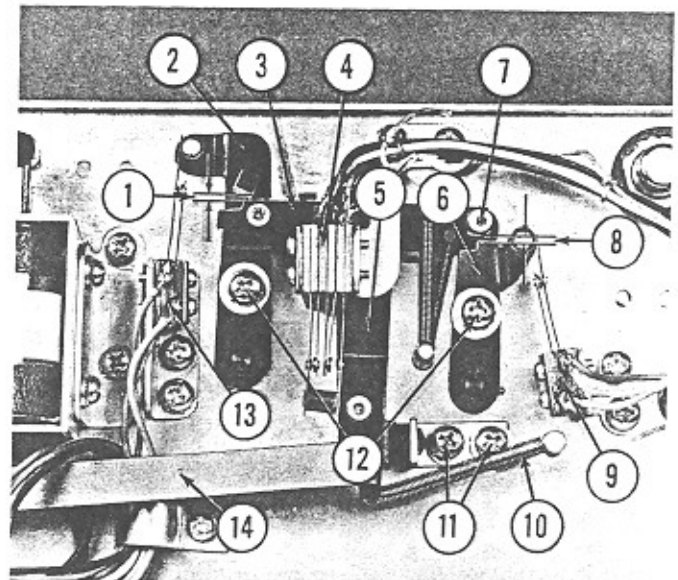
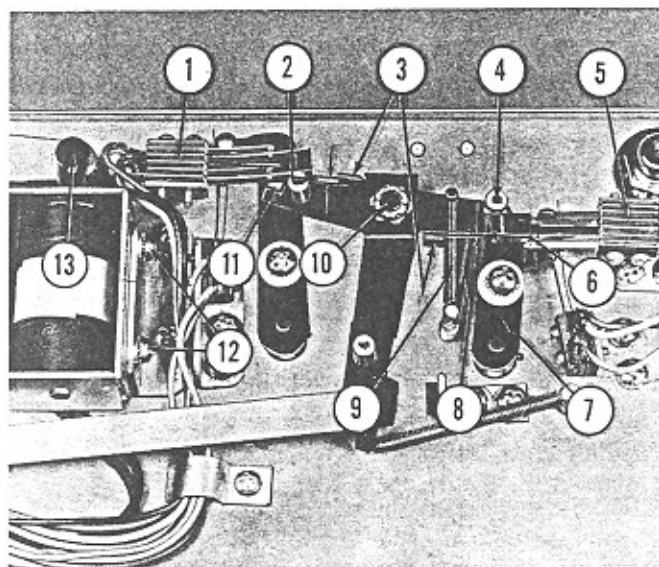

Fig. 24. SELECTOR SWITCH AND SOLENOID ADJUSTMENT
Fig. 25. SELECTOR SWITCH LATCH ADJUSTMENT
a. Adjustment of the latch solenoid stop bracket (Item 11, Fig. 24) should be made with the "crank and link" assembly (Item 14) retracted against the stop bracket under tension of the retracting spring (Item 10). Loosen the two stop bracket screws (Item 11) and move the bracket on its elongated mounting holes to provide $1/32$ " clearance (Items 1 and 8) between the square stud on the pawl (Item 2) and the adjacent trip lever (Item 3). Check this dimension after tightening the stop bracket screws. If necessary, repeat the adjustment to obtain an average dimension as indicated at Items 1 and 8.
b. The adjusting screws (Item 12, Fig. 24) for the number trip lever (Item 6) and the letter pawl (Item 2) serve to take up the backlash in their respective linkages. With any one of the selector buttons fully depressed, and with the latch solenoid actuated, the pawl (Item 2) should be set to permit full engagement of the trip lever (Item 3) with the square stud of the pawl (Item 2). There should be a minimum of backlash at the selector buttons to insure good contact of the selection switch. In like manner the square stud of the number pawl (Item 7) should engage the trip lever (Item 6) when any one of the number buttons is fully depressed.
c. Adjustment for release lever clearance (See Item 5, Fig. 24) may be best accomplished by removal of latch solenoid switch assembly (Item 4).
a. The latch solenoid should be loosened at its mounting screws (Item 12, Fig. 25) and lowered on its mounting bracket. The latched position of the selector switch linkage should be established as described under Fig. 24 and the latch solenoid, with its plunger (Item 13, Fig. 25) held firmly bottomed in the solenoid, adjusted on its mounting bracket to provide $1/32$ " clearance as shown at Items 2 and 6. The closest of the two release tabs (Item 3) to its corresponding pawl and stud (Item 11) or trip lever (Item 7) should be $1/32$ " when the square studs are fully engaged. It is important that the trip lever (Item 3, Fig. 24) the release lever (Item 5, Fig. 24) and the "pawl and stud" assembly (Item 7, Fig. 24) operate freely with minimum looseness, on their mounting stud (Item 10, Fig. 25). The elastic stop nut shown at Item 10 is adjustable for this purpose.
b. The latch solenoid switch should be re-mounted and adjusted on its elongated mounting holes to provide $1/32$ " to $1/16$ " opening of its normally closed contacts when the latch solenoid is held in its fully actuated condition as shown in Fig. 25. At the same time its normally open contacts should close with enough over-travel to provide good wiping action of the contacts.
c. The letter and number latch switches (Items 1 and 5, Fig. 25) are assembled and adjusted, in production, with all contacts normally open. This should be $1/32$ ". When the latch solenoid is actuated electrically under normal operating conditions or pre-set manually as described above, the mounting screws of the switch brackets may be slightly loosened and the assembly moved to provide good contact of the switch blades, with sufficient over-travel to produce wiping action of about $1/32$ ".
d. The letter and number series switches (Items 13 and 9, Fig. 24) are pre-set in production to provide normally closed contacts with 30 to 40 grams of contact pressure. When the latch solenoid is actuated electrically under normal operating conditions or pre-set manually as described above, the series switch mounting screws may be slightly loosened and the "switch and bracket" assembly moved to provide contact opening of $1/32$ ".